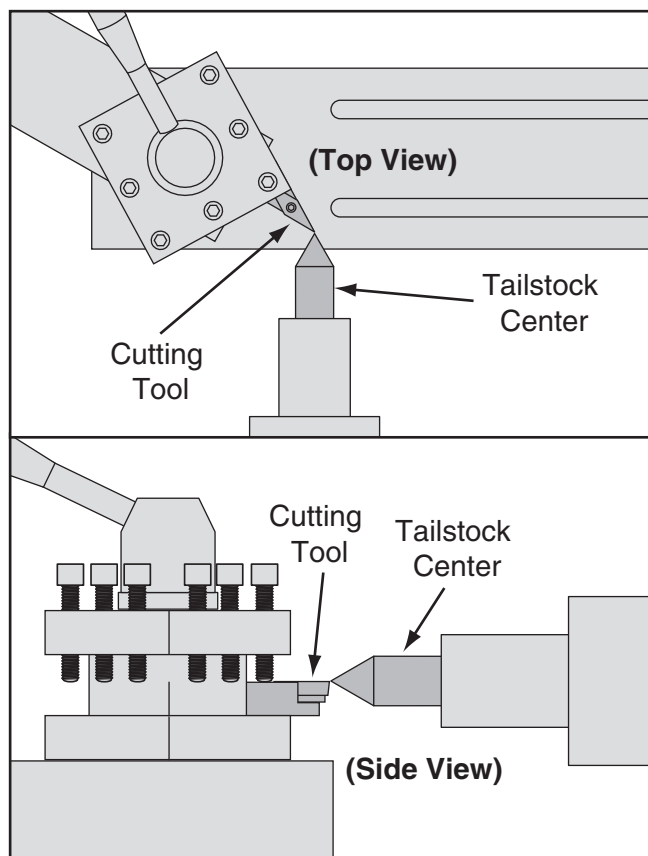

Figure 52. Cutting tool aligned to the tailstock center.
4. Adjust the height of the cutting tool so that the tool tip is aligned vertically and horizontally with the center tip, as shown in **Figure 52**.